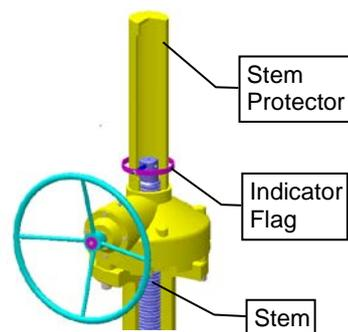

Figure 6
- a) The forged head of the stem fits into a slot in the gate. The upper end of the stem is threaded for operation. A cover or cap protect the stem threads from the elements or from accidental damage. An indicator flag attached to the stem protrudes through the stem protector to provide visual indication of the gate in open or closed position as shown in Figure 6.